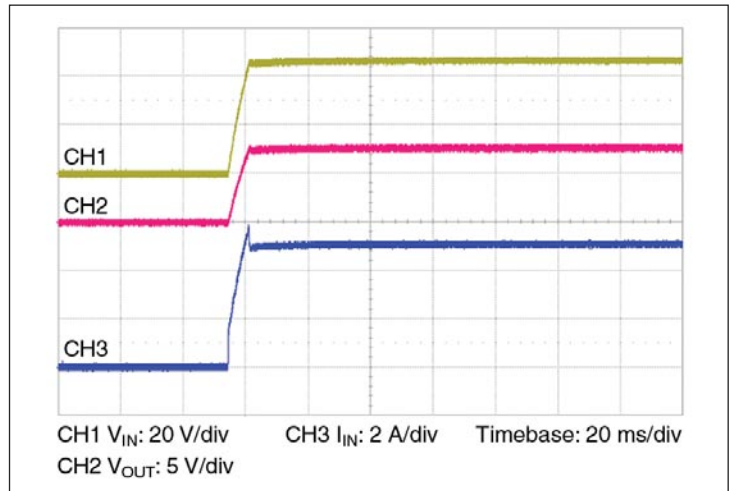

Figure 10 — Start up from application of V_{IN} ; VC pre-applied $C_{OUT} = 2300 \mu F$
- **Normal operation (VC applied prior to V_{IN}):** In this case the controller is active prior to ramping the input. When the input voltage is applied, the VTM module output voltage will track the input (See Figure 10). The inrush current is determined by the input voltage rate of rise and output capacitance. If the VC voltage is removed prior to the input reaching 26 V, the VTM may shut down.